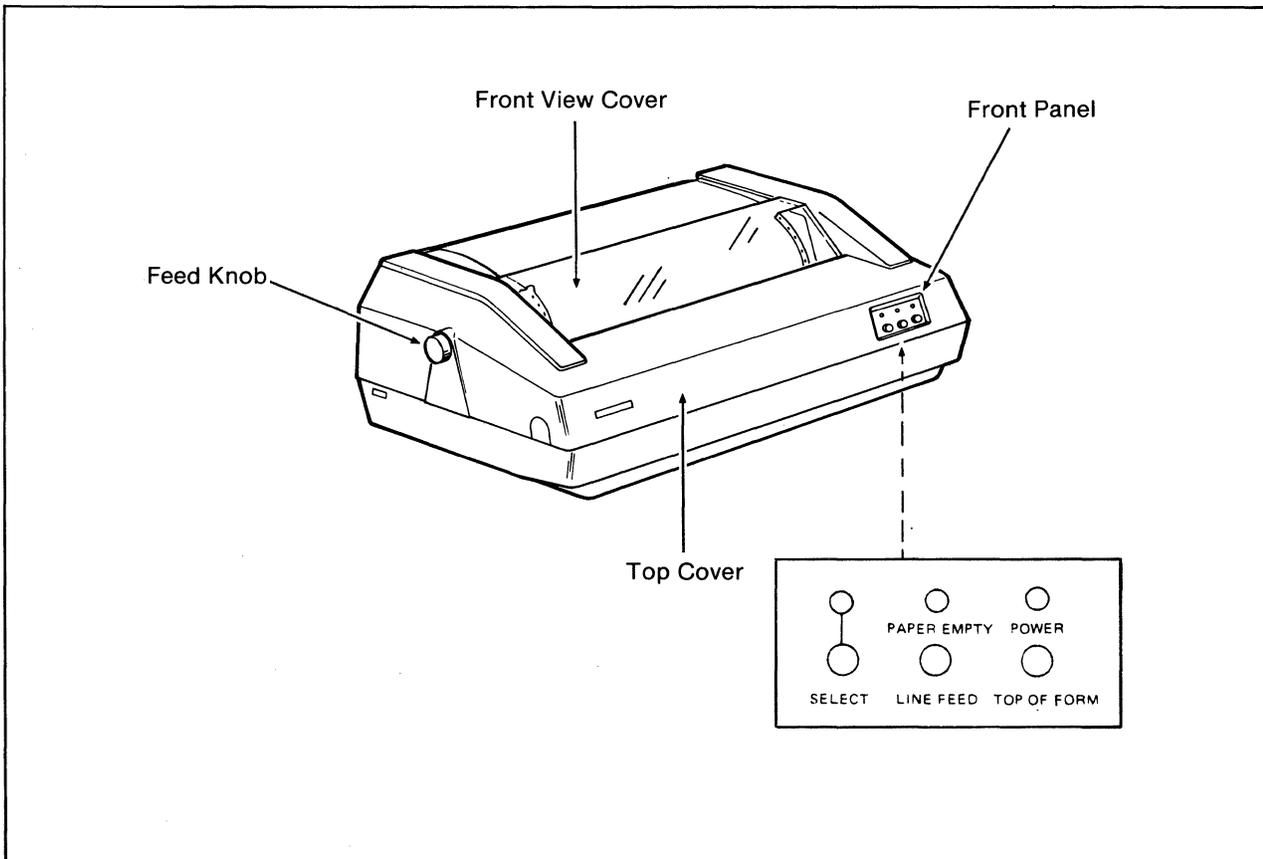

Figure 40 *Printer*
- When the TOP OF FORM button is **pressed**, the paper advances to the next top-of-page position. There are **66 print lines** from a top-of-page to the next. See **figure 40**.